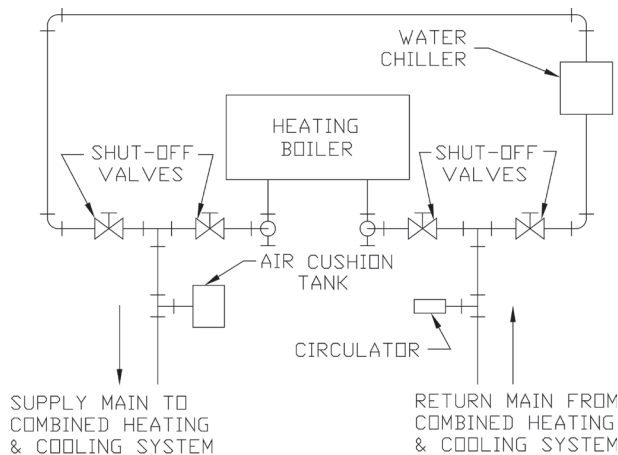

Figure 13: Recommended Piping for Combination Heating & Cooling (Refrigeration) Systems
- d. If this boiler is used in connection with refrigeration systems, the boiler must be installed so that the chilled medium is piped in parallel with the heating boiler using appropriate valves to prevent the chilled medium from entering the boiler, see Figure 13. Also consult I=B=R Installation and Piping Guides.